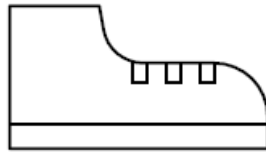

Figure 7
2. Plug a Greenlee foot switch into the Pull Connects foot switch jack. The jack is labeled with this figure (Fig.7).